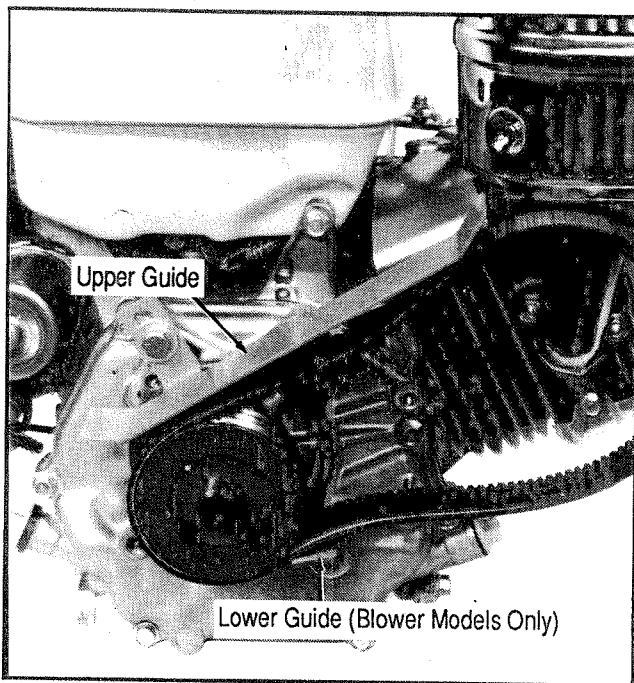

Figure 9 . Engine-mounted Belt Guides
- Make sure that the belt guides (shown in Figure 9) are in place on the engine, and that the lower guide is positioned so that the belt bulges away from the pulley when it is slack. This helps prevent accidental engagement of the cutting blades.